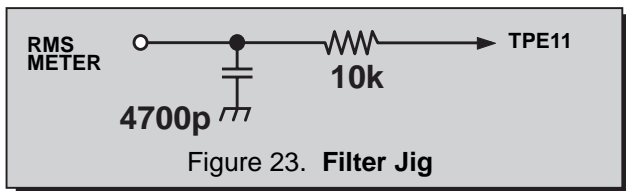

Figure 23. Filter Jig
1. Connect an RMS meter with filter jig as shown in Fig. 23.